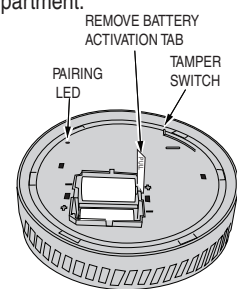

Figure 7 Activating Smoke Combo CO Alarm
- To set the Smoke/CO alarm to pairing mode, remove the battery activation tab that protrudes from the back of the Alarm (See Figure 7) by pulling until it is completely out of the battery compartment.
- The green LED blinks (See Figure 7) three (3) times every five (5) seconds to indicate that the Smoke/CO alarm is searching for the control panel.